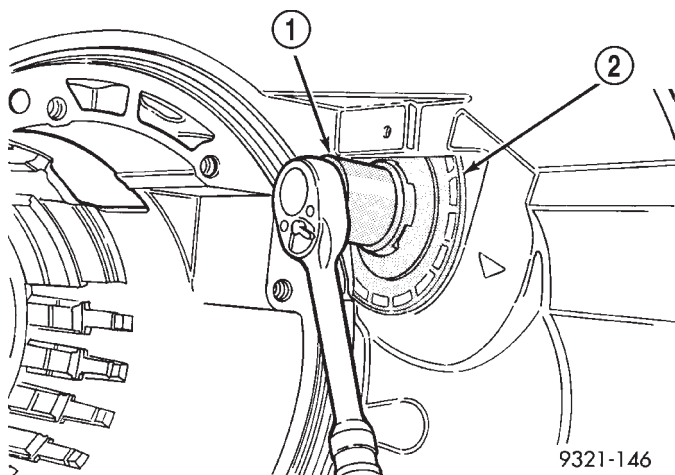

Fig. 404 Inner Adjuster Installation
(23) Lube adjuster threads and O-ring with gear oil before installing. Failure to lube threads will result in thread damage to the adjuster and transaxle case.
(24) Screw in the inner adjuster using special tool 6502B (Fig. 404). The inner adjuster should be screwed in until under-flush with inside of the case (viewed from differential side).